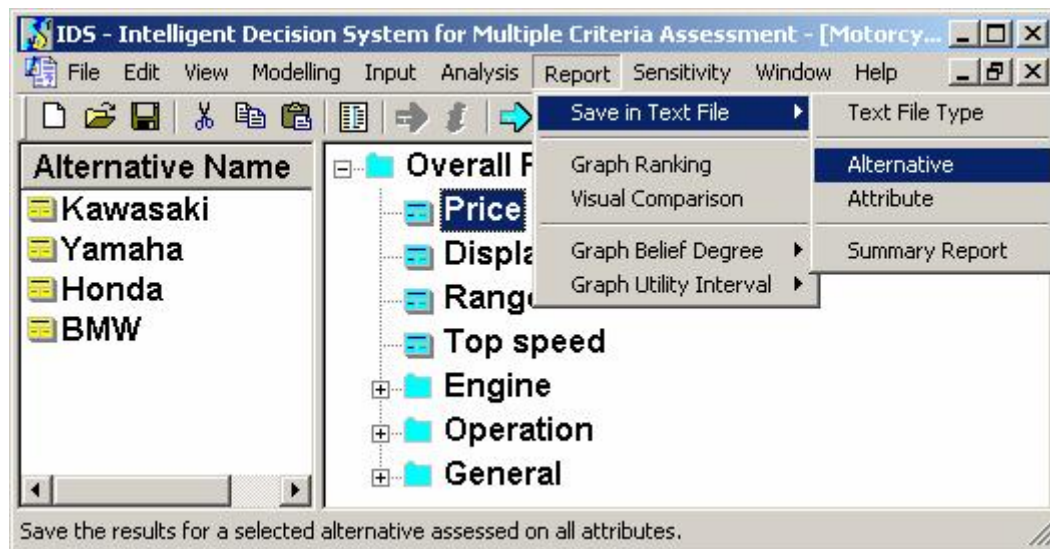
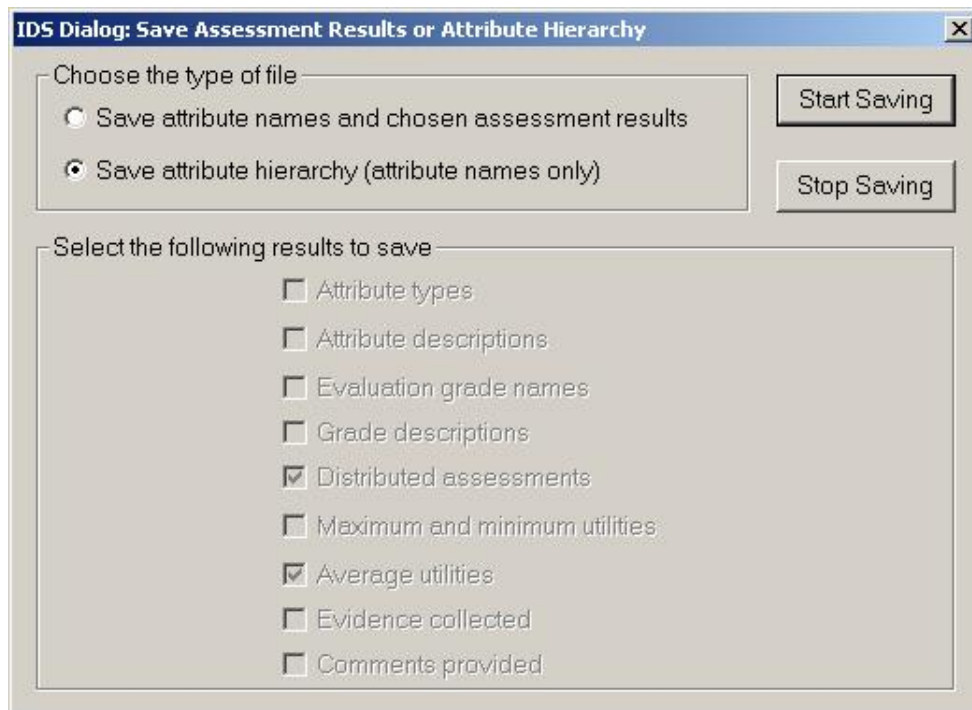

Figure 7.1 Menu Selection for Saving Model and Data in Text File
Figure 7.2 Save the Model in Text Format
2. Clicking from the menu of the window *Report->Save in Text File -> Alternative* (**Figure 7.1**). This will bring a window similar to the one shown in **Figure 7.2**,
If you wish to save only the model structure (the hierarchy), you can select the second radio button and then clicking the *Start Saving* button (**Figure 7.2**). If you wish to save the data for the selected alternative, you can select the first radio button, and then from the enabled list below, select what you want to save.
You may also save all the alternative estimates on one selected attribute by clicking the *Report->Save in Text File -> Attribute* (**Figure 7.1**) menu in the program main window.